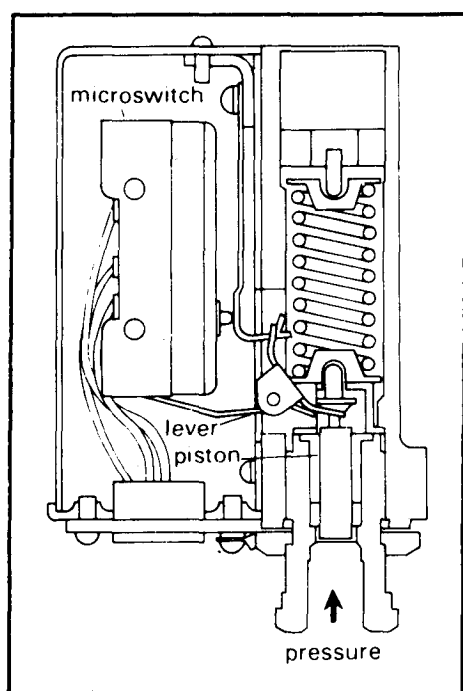

Figure 7-2. Piston-type pressure switch.
**Piston-Type Pressure Switch.** (See Figure 7-2.) This switch consists of a rectangular-shaped housing, a cylinder bore and piston, an adjustable spring for loading the piston, a microswitch, and linkage for transmitting the piston's movement to the microswitch. The housing has a port for connecting the switch to a system pressure line and an electrical receptacle for connecting the switch with an electrical circuit.